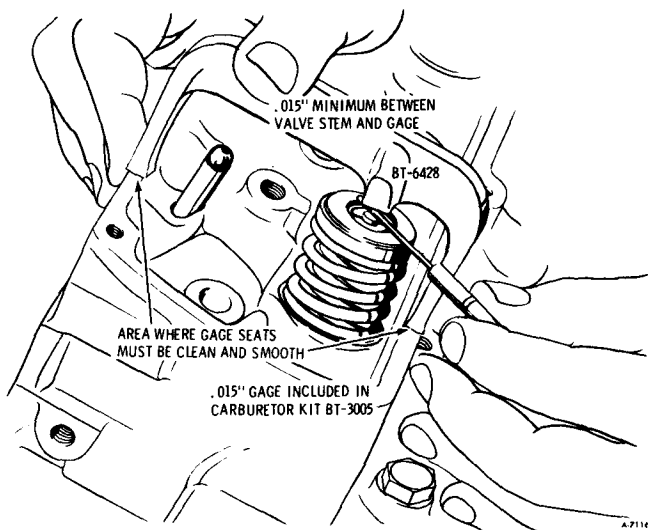

Figure 31—Measuring Valve Stem Height
**MEASURING VALVE STEM HEIGHT (FIGURE 31)**
After all valve keys have been installed on valves, tap each valve stem end with a hammer to seat valve rotators and keys. Re-gauge all valves between valve stem and gauge (.015" minimum) and valve rotator and gauge (.030" minimum) (figures 31 and 32). If any valve stem end is less than .005" above rotator, the valve is too short and a new valve must be installed.